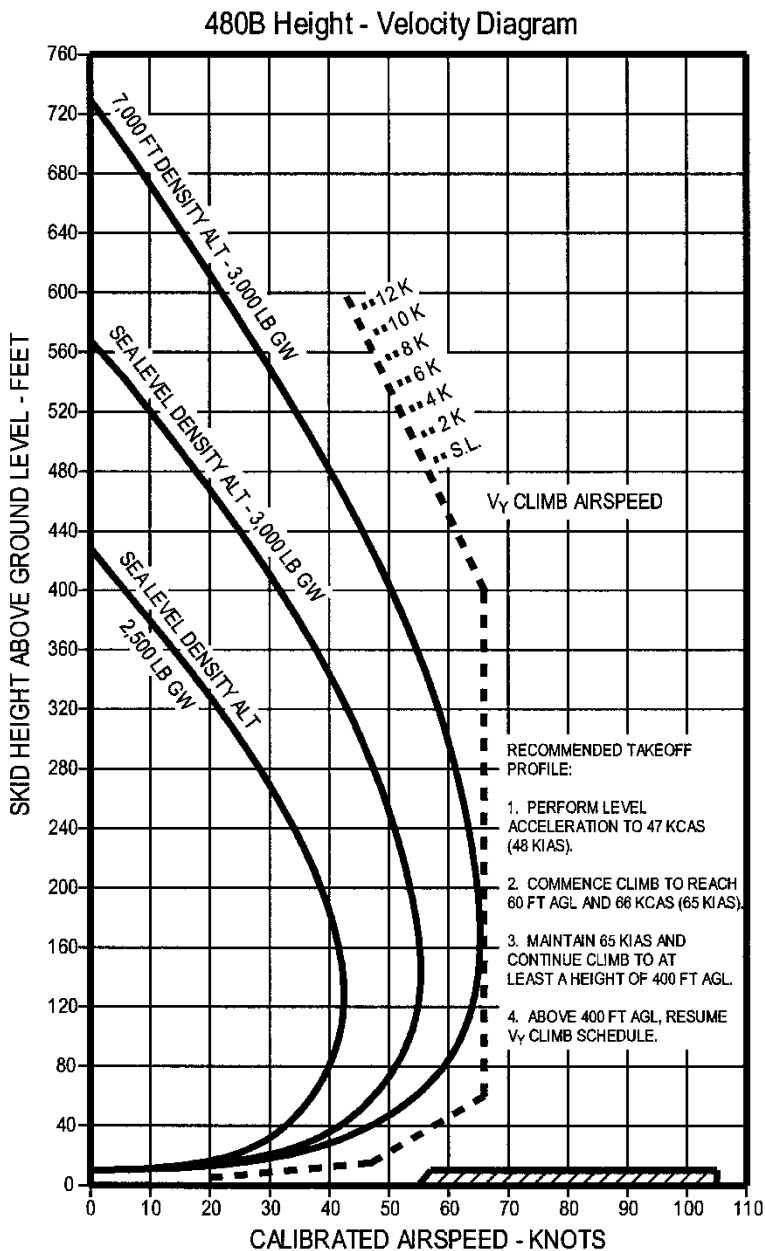

Figure 4-13. Height - Velocity Diagram
1. The Height-Velocity Diagram is shown in Figure 4-13. Each curve was developed at the weight and altitude conditions specified.